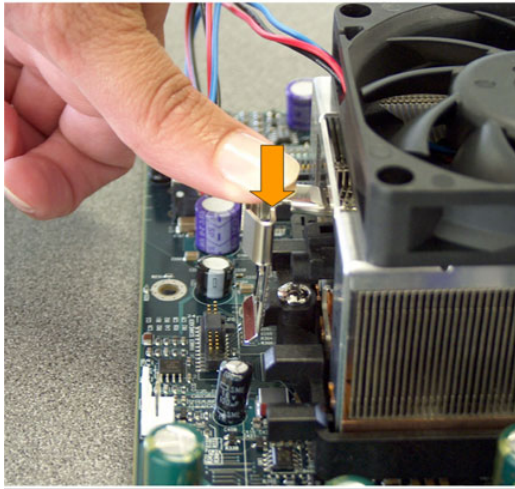

Figure 16. Pushing Straight Down on the Clip
18. Carefully push straight down on the clip. (See Figure 16 on page 25.)